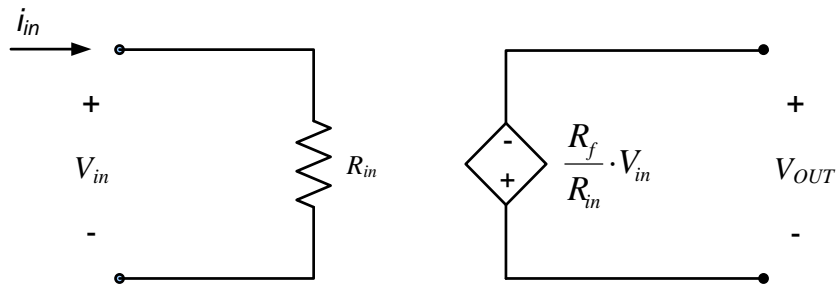
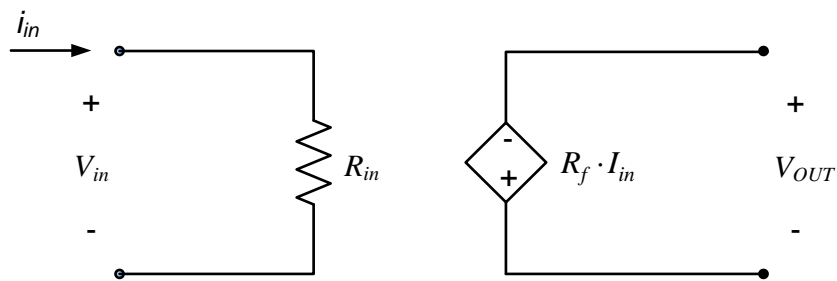

Figure 5.12. VCVS to model circuit of Example 5.1.
Figure 5.13. CCVS model for circuit of Example 5.1.
These two relationships are satisfied by the voltage controlled voltage source (VCVS) shown in Fig. 5.12 below. The input resistance of this circuit is the resistance R_{in} ; the input resistance governs the relationship between the voltage applied by the source and the source current necessary to maintain that voltage. Thus, increasing R_{in} reduces the power which the source must provide to maintain the output voltage V_{OUT} .
- The representation given in Fig. 5.12 of the circuit of Example 5.1 is not unique. For example, the current controlled voltage source (CCVS) model shown in Fig. 5.13 is also a valid model for the circuit.